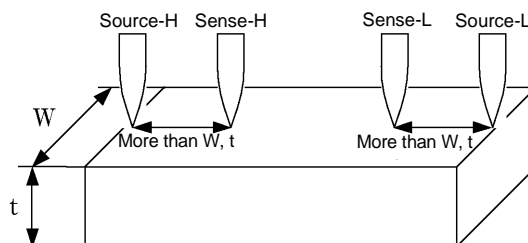

Figure. 8 Probe Positions on Wider/Thicker DUT
Generally, if the distance between the voltage detection points (Sense-H, Sense-L terminals) and their corresponding current application points (Source-H, Source-L terminals) is greater than the width (W) or thickness (t) of the DUT, current distribution may be considered uniform. As shown in Fig. 8, sense leads should be W or t mm or more inside from the Source leads.